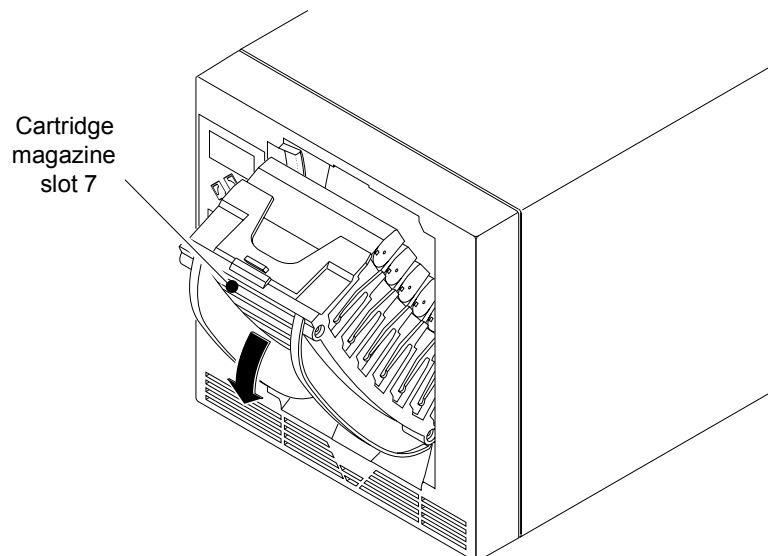

Figure 4-1 Removing the cartridge magazine
2. Grasp the magazine at the top (near cartridge slot 7) and pull out, as shown in Figure 4-1.